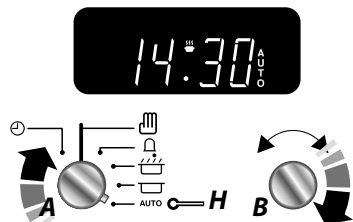

Fig. 2.28
5. Once the specified time has elapsed it will emit an alarm and the Multifunction Oven will stop working. The 'Cooking' symbol on the display will disappear and the word **'AUTO'** will flash (**Fig. 2.28**).
6. When you return, turn the **Timer (A)** knob to the **Manual (D)** setting to return to manual cooking and reset the Multifunction Oven modes once cooking is complete (**Fig. 2.28**).